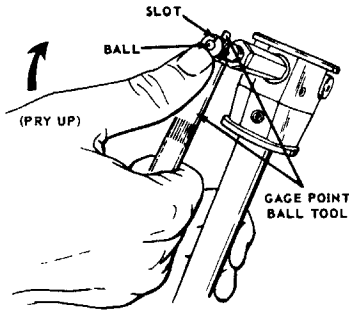

FIGURE 11
1. See Figure 11. Hold thumb over Ball and pry it out with the Gage Point Ball Tool.